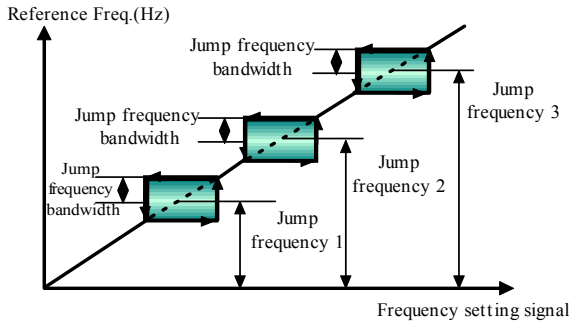

Fig. 5-2-5 Jump Frequency
- ◆ In order to make the setting frequency of the inverter avoid the resonance frequency point of the mechanical load, the setting frequency of the inverter can hop near some frequency point. The operating frequency corresponding to the resonance frequency is jump frequency as shown in Fig. 5-2-5.